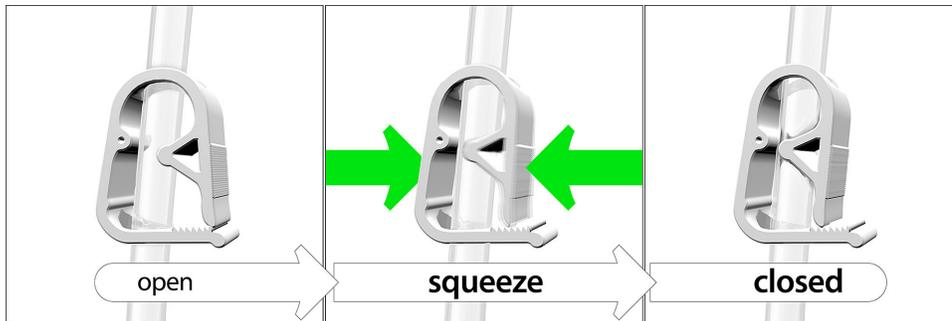

Figure 4
1. Clamp the tubing closed (**Figure 4**).